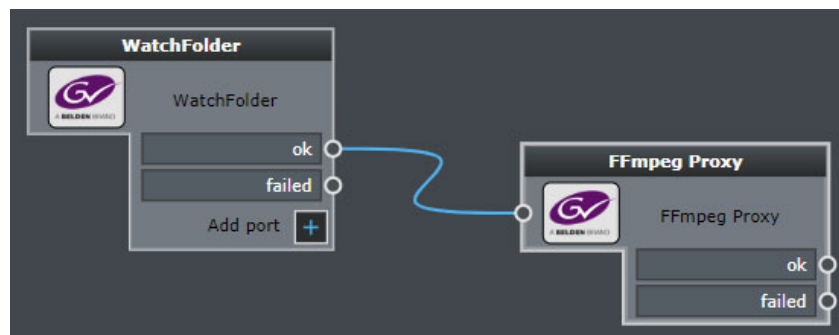

Fig. 3-95: Linking Watchfolder to FFmpeg Proxy Workflow Element
- 5 Link the two elements together by clicking the **ok** port of the **Watchfolder** element and dragging the link to the transcoder input port, see Figure 3-95.